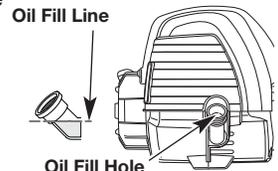

Fig. 36
5. Check the oil level. Oil should be just to the bottom of the threads of the oil fill hole (Fig. 36).
6. If the level is low, add a small amount of oil to the oil fill hole and recheck (Fig. 36). Repeat this procedure until the oil level reaches the bottom of the threads in the oil fill hole.
**NOTE:** Use the bottle and spout saved from initial use to measure the correct amount of oil. Check the level (Fig. 36). If the level is low, add a small amount of oil and recheck. Do not overfill (Fig. 36).